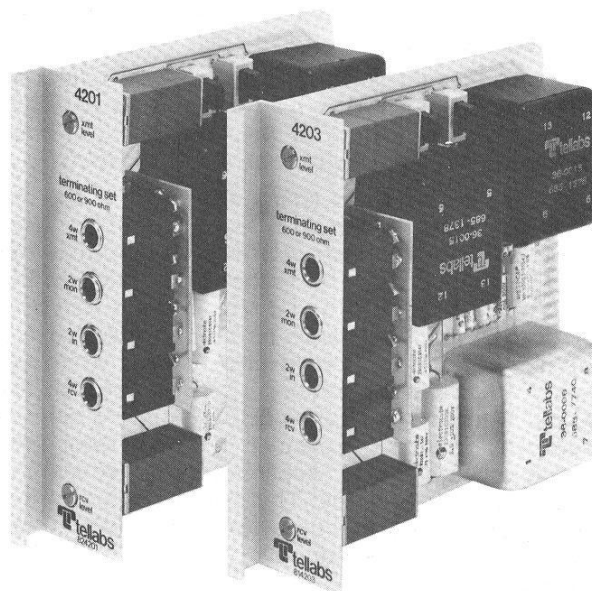

figure 1. 4201 and 4203 Terminating Sets
1.01 Tellabs' 4201 and 4203 Terminating Sets (figure 1) provide toll-grade interfacing between 2wire and 4wire voice-frequency transmission facilities. Both modules feature switchable 600 or 900 ohm impedance matching on the 2wire side, while 4wire port impedances are fixed at 600 ohms. In each case, the resistive 600 or 900 ohm component of the impedance at a particular port is in series with a $2.15\mu\text{F}$ capacitive component.